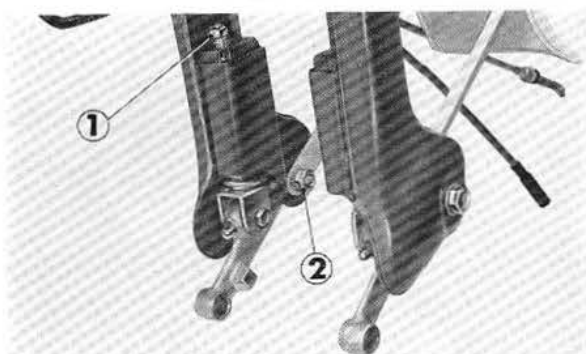

Fig. 4-9 ① 6 mm nut ② 8 mm nut
- Disassemble the front cushion assembly and suspension arm from the front fork. (Fig. 4-9)